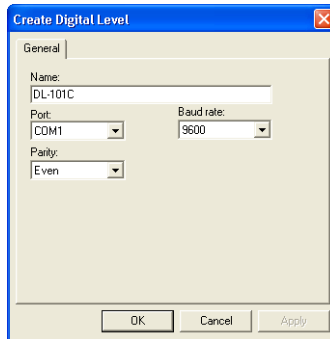

Figure 3-47. Topcon Digital Level Properties
4. On the *General* tab, enter *Name*, the *Port* the device is connected to, the *Baud Rate*, and *Parity* used for communication (Figure 3-47). Click **OK**.